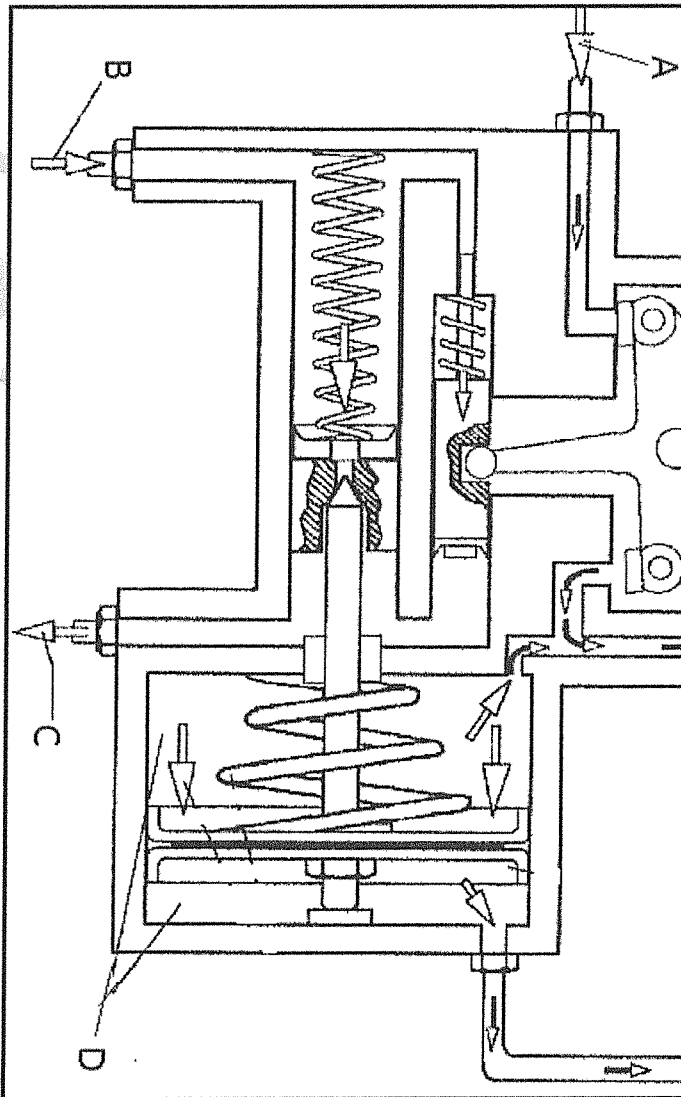

FIGURE 4
- 4.2 Is the brake booster shown in FIGURE 4 in the resting or applied position? (1)